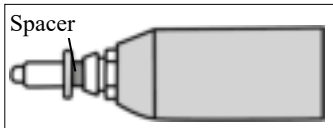

Fig. 1-6
- (6) Prepare the rivet gun tool. Apply electrical tape or friction tape to tool shaft to avoid damage to painted brackets. See Fig. 1-6, light shade shows taped area.